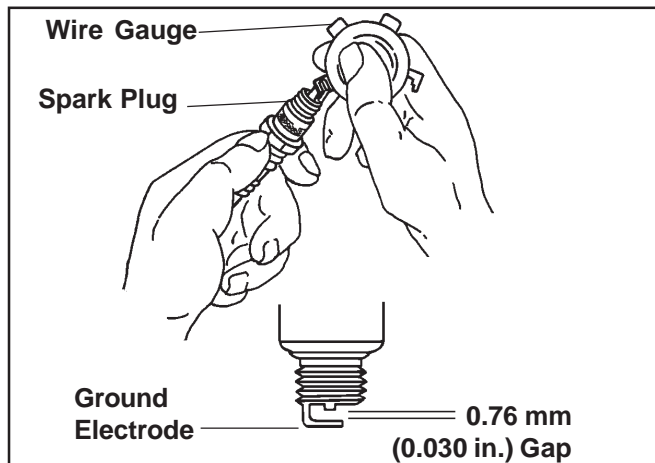

Figure 23. Servicing Spark Plug.
3. Check the gap using a wire feeler gauge. Adjust the gap to **0.76 mm (0.030 in.)** by carefully bending the ground electrode. See Figure 23.